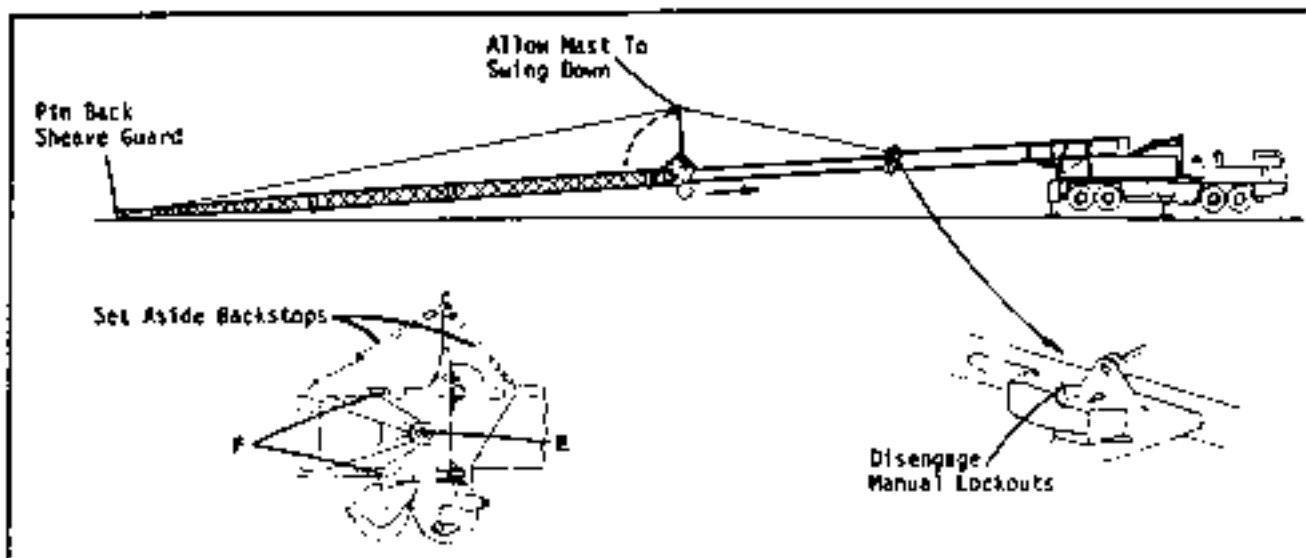

Fig. 4-61
- Step 4:** Retract boom tip section slowly, allowing jib mast to lower onto the jib long straight extension. Refer to Fig. 4-61.
- frontstay and backstay pendants from the jib mast and set aside. Boom up or down slightly to align lugs at "F" and install pins and keepers. Leave pins in place at "C". Refer to Fig. 4-61.